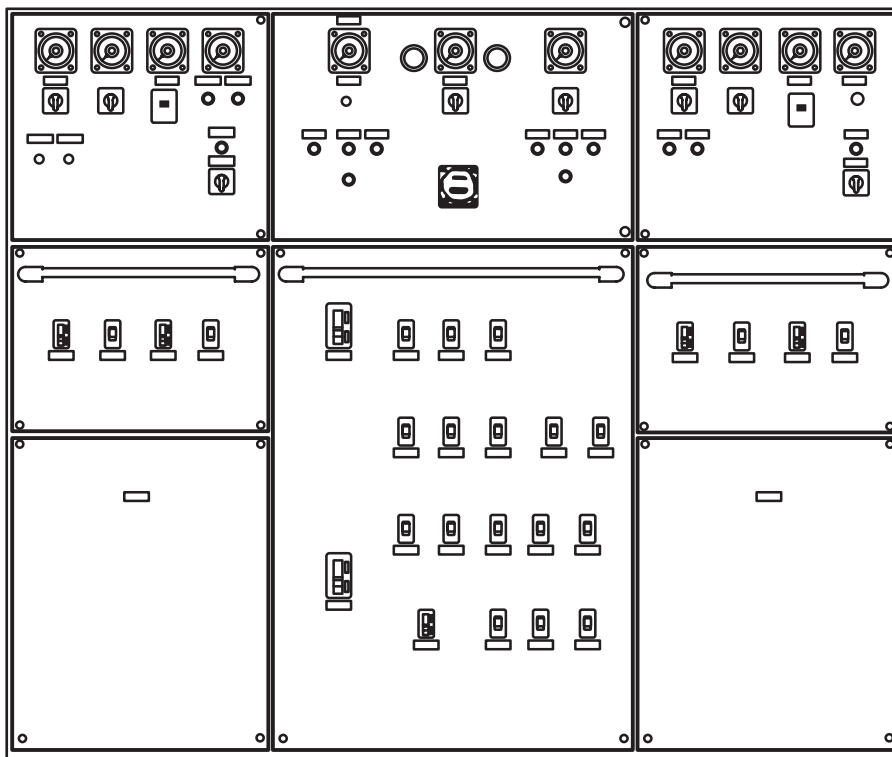

Figure 14. Main Switchboard
- n. Main switchboard (figure 14) in the EOS.